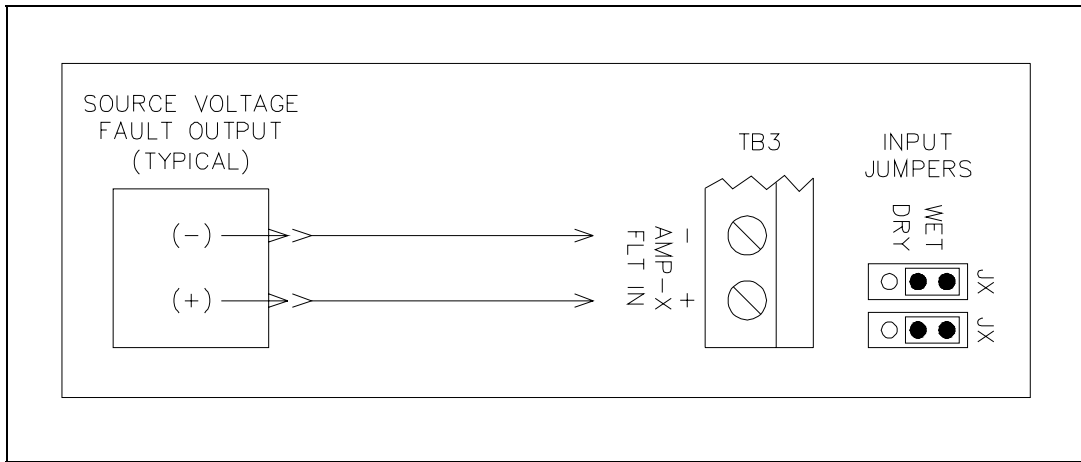

Figure 2. Source Voltage (Active) Fault Connection
**WET (ACTIVE) OUTPUT** – requires the amplifier to output 10–15 V dc when operating in a healthy state and the respective jumper clips set to the wet position. Be sure to match polarity markings, e.g., **+** to **+** (plus to plus) and **-** to **-** (minus to minus) between the amplifier's fault output and input terminals at this module for proper operation. Refer to Figure 2 for a connection detail.